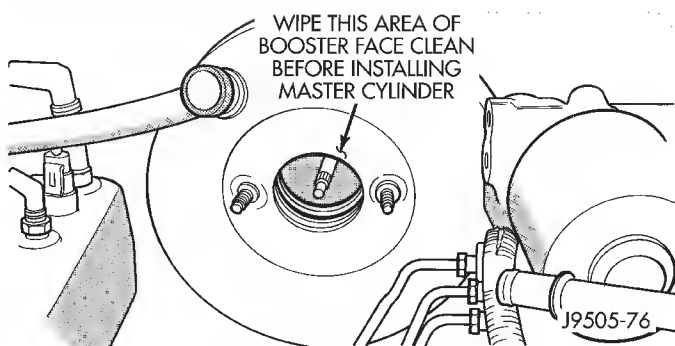

Fig. 19 Cylinder Mounting Surface Of Brake Booster
(9) Clean cylinder mounting surface of brake booster (Fig. 19). Use shop towel wetted with brake cleaner for this purpose. Dirt, grease, or similar materials will prevent proper cylinder seating and could result in vacuum leak.